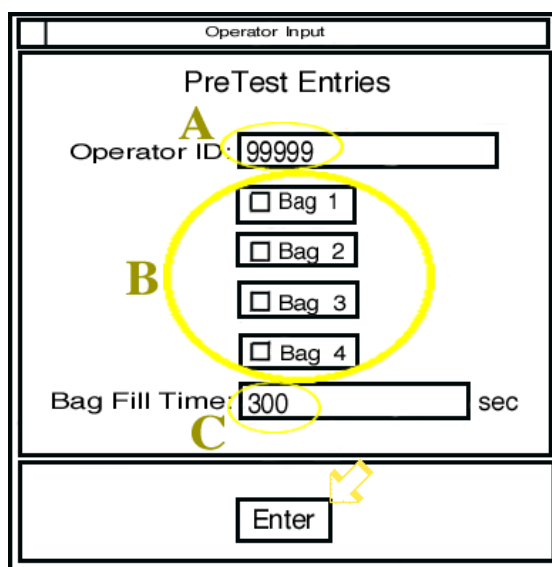

Figure 9
- 107 On the “Pre Test Entries” menu: Click in the “Operator ID” field and use the keypad to enter your operator ID number. See the field labeled “A” in Figure 9. Click on the correct “Bag #,” where # equals 1, 2, 3 or 4. See the fields next to “B” in Figure 9. For “Bag Fill Time,” click in the field and use the keypad to enter 300. See the field labeled “C” in Figure 9. Click on the “Enter” button. See the arrow in Figure 9.